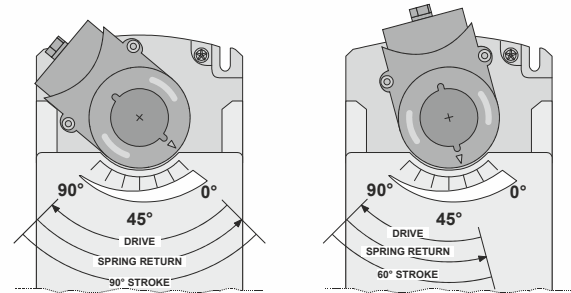

Fig. 5. Stroke reduction
3. Rotate the coupling to the desired fail-safe position, aligning it based on the stroke labeling. See Fig. 5.
**EXAMPLE:** Setting the shaft coupling to an approx. fail-safe position of 35° (as indicated on the housing) limits the stroke to 60° (see Fig. 5).